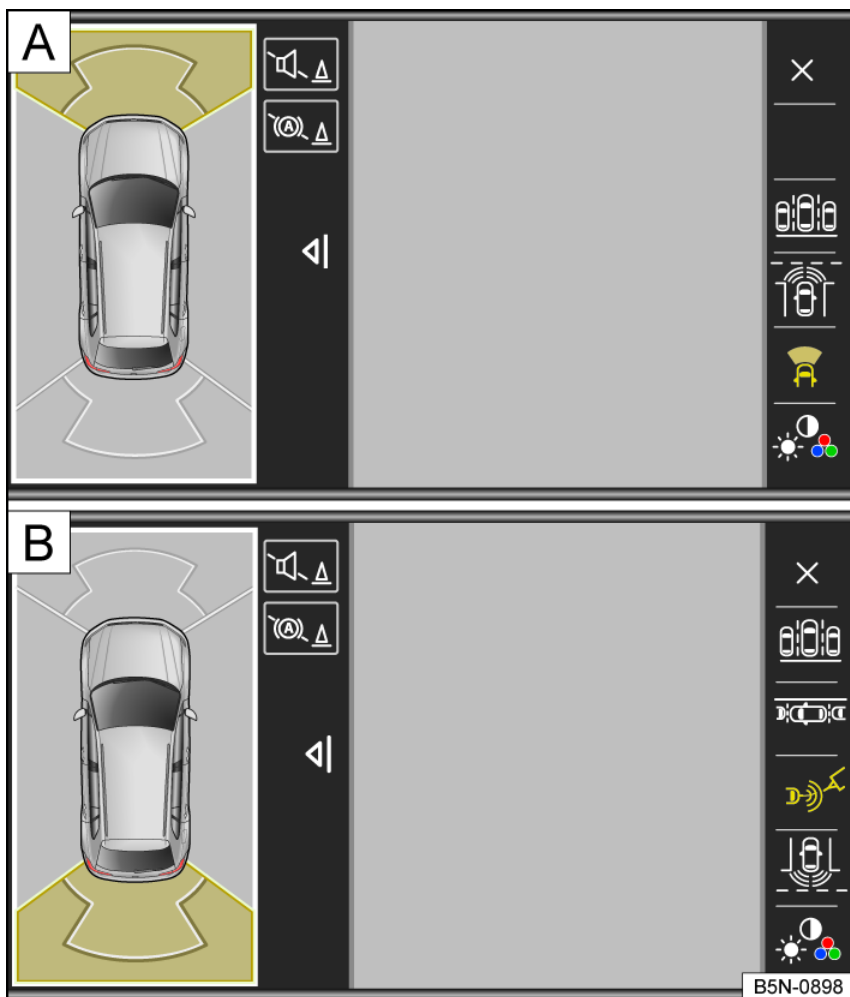

Fig. 126 Infotainment system: screen display of Area View.
1. Tap the function keys on the image border to select a display *fig. 126*.
Two sections of the screen will be shown in the Infotainment system *fig. 126*: